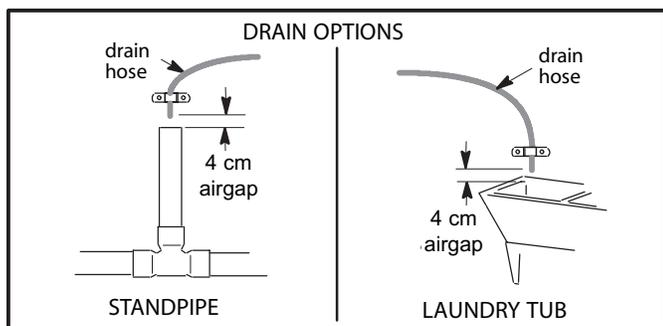
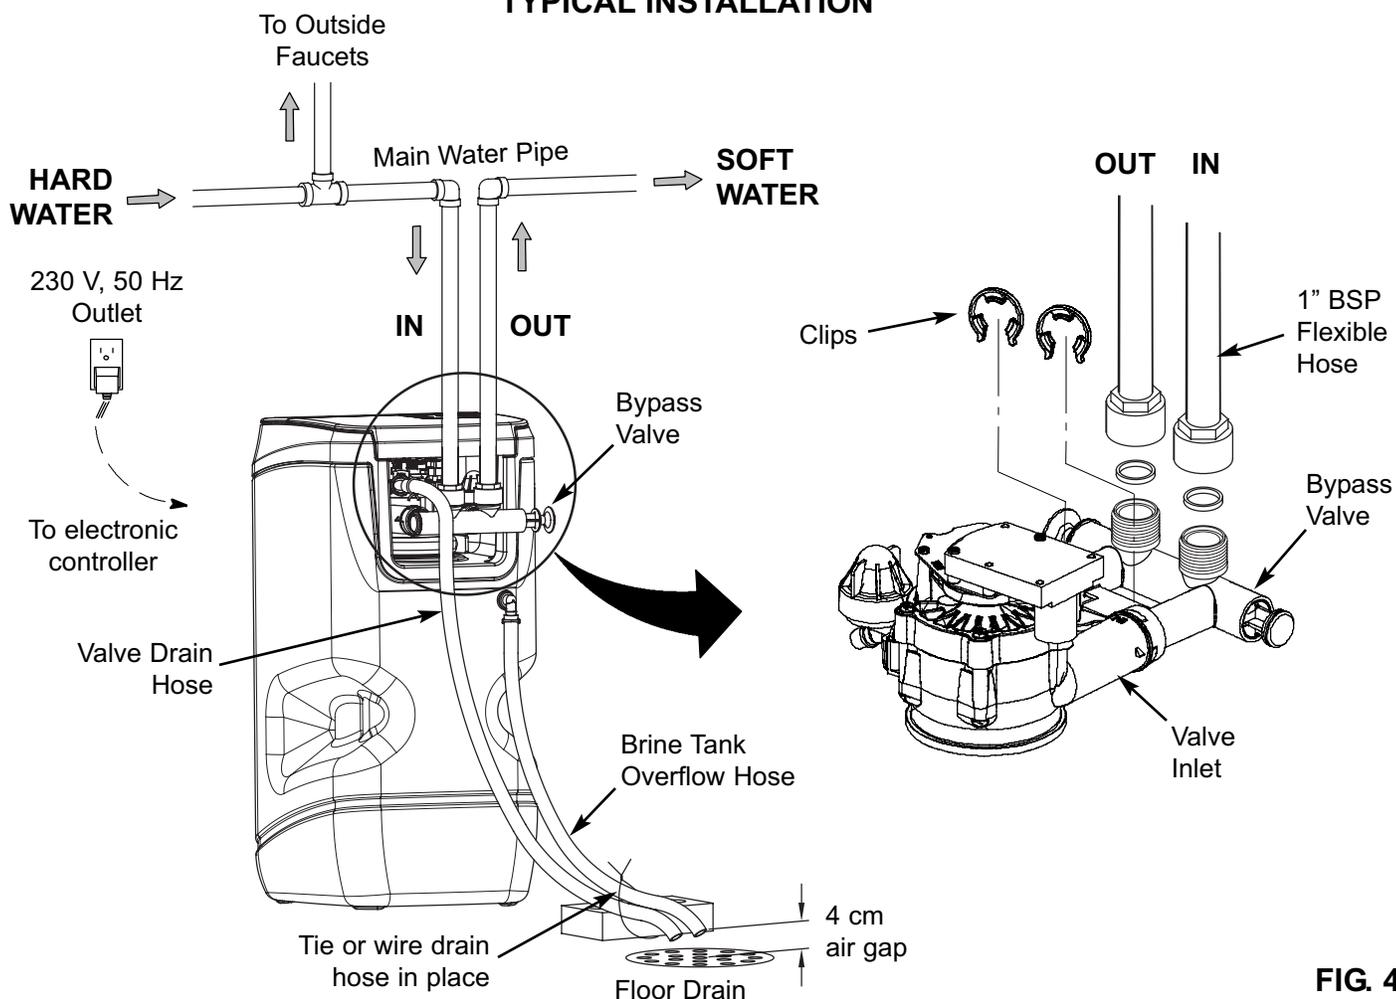

FIG. 2
FIG. 4
- A drain is needed for recharge discharge water. A floor drain is preferred, close to the water softener (See Figure 4). A laundry tub, standpipe, etc., are other options (See Figure 2).
- If installing a single bypass valve, put lubricated o-ring seals onto both bypass valve ports. Carefully slide the bypass valve into the softener valve and install the "C" clips (See Figure 4).
- Connect flexible hoses to the bypass valve (See Figure 4).
- c. Run the hose to the floor drain, and as typically shown in Figure 4, tie or wire the end to a brick or other heavy object. This will prevent "whipping" during recharges. Be sure to provide a 4 cm minimum air gap, to prevent possible sewer water backup.
- b. Place the bypass valve(s) in **bypass** position (See Figure 2).
- (1) SINGLE BYPASS VALVE: **Slowly** move the valve stem toward **service** position, pausing several times to allow the unit to pressurize slowly.
- (2) 3-VALVE BYPASS: Fully close the **bypass** valve and open the **outlet** valve. **Slowly** open the **inlet** valve, pausing several times to allow the unit to pressurize slowly.